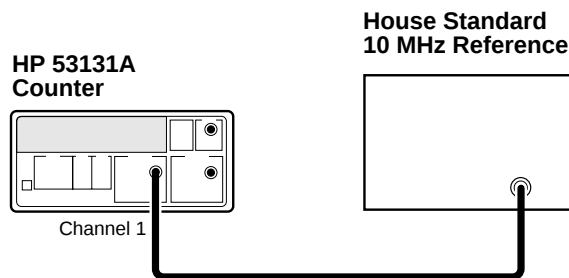

Figure 2-4. Standard Timebase Calibration Setup
- 1 Connect the output of a 10 MHz house standard to Channel 1 of the Counter as shown in Figure 2-4.**